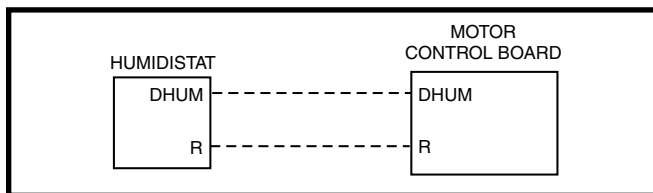

Figure 23. DEHUM Wiring Configuration with Humidistat
- If the room thermostat incorporates a humidity sensor and **DEHUM** output, connect the **DEHUM** on the thermostat to the **DEHUM** terminal on the motor control board. See Figure 23 \(page 24\).